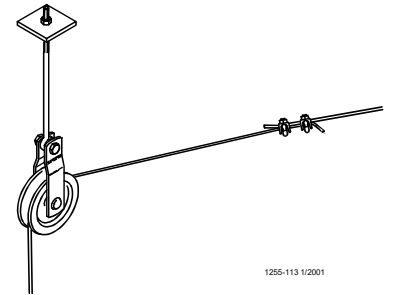
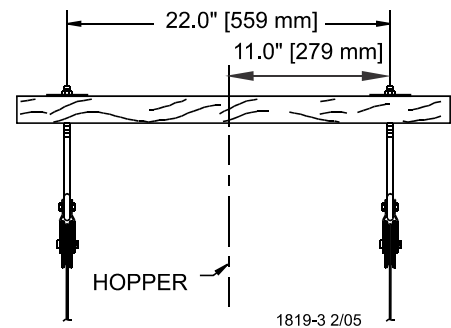

Figure 7. Steel Hopper Suspension
Figure 8. Plastic Hopper Suspension
- Feed Hopper Locations: **When steel hoppers with center suspension are used, see figure 7, the feeder line must be supported within 1' [30 cm] of the feed hopper.** **When plastic hoppers are installed only 2 point suspension can be used, see figure 8, this does not require additional supports.** This is in addition to the required Feeder Hopper suspension. After determining the type of suspension system required, decide where the Feeder Line is to be installed. Mark a straight line on the ceiling or rafters the full length of the Feeder Line. Use a string, chalk line, or the winch cable, temporarily attached with staples, to mark the line. Center the line directly over where the Feeder Line is to be installed.